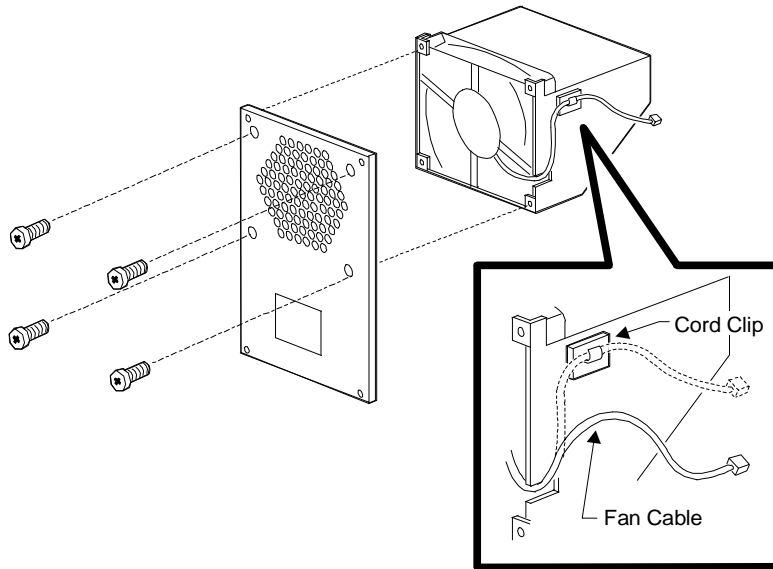

Figure C-2. Removing the Fan Cable and Fan Assembly Screws
7. Remove the fan cable from the cord clip attached to the fan assembly. See Figure C-2.
8. Remove the four screws holding the fan assembly together. (See Figure C-2.) Save the screws.